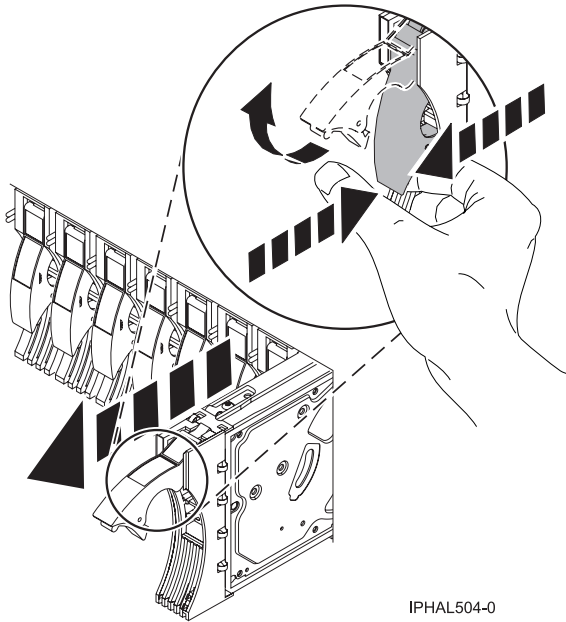

Figure 60. Removing a disk drive from a model or 11D/20
1. Unlock the disk drive handle by squeezing it and pulling it out toward you, as shown in Figure 60 on page 65.